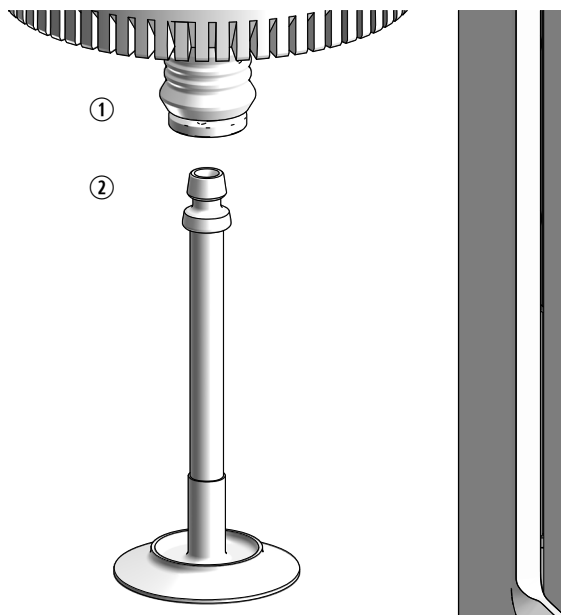

Fig. 17: Mounting a measuring geometry
1. Move the sleeve of the MCR coupling (Fig. 17, ①) upwards.
3. Insert the measuring geometry (Fig. 17, ②) into the coupling of the MCR.